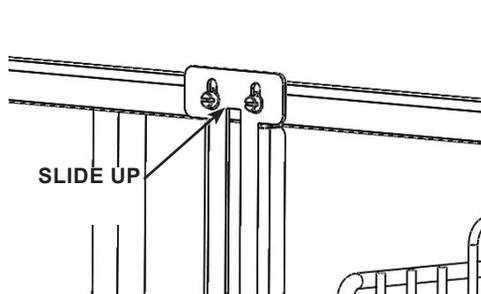

FIGURE 2.7 - Latch Top Keyhole Slot
STEP 2: Lift the latch bar upward to clear the keyhole slots located at the top of the latch bar. See FIGURE 2.7